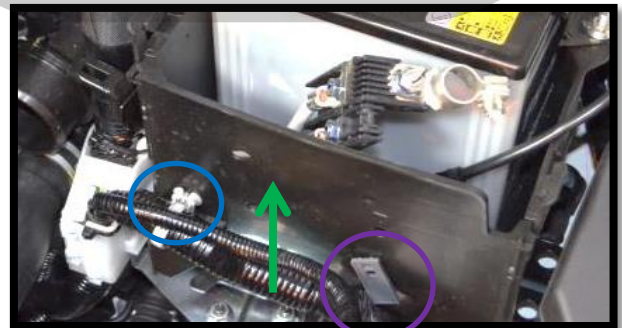

Figure 2c
- e) **Remove the front battery box panel.** Remove the MAF wiring harness clip (**blue circle Figure 2c**), and negative battery cable clip (**purple circle Figure 2c**), from the front battery box panel using needle nose pliers to compress the clips on the inside of the battery box. Then slide the panel upwards and remove it (**green arrow** in **Figure 2c**).